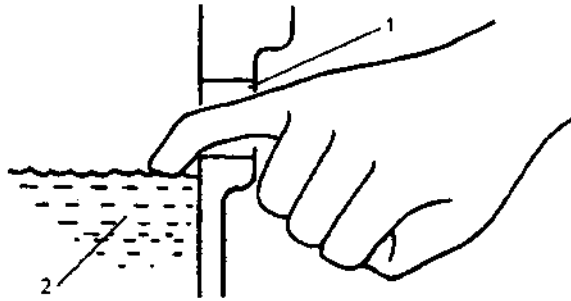

Fig. 1.4-16
- 3) Dismount the filler plug. When inserting fingers into the filler, you can know the oil level approximately. If the oil level is close to the filler, showing that the oil filling is proper, as shown in Fig. 1.4-16.